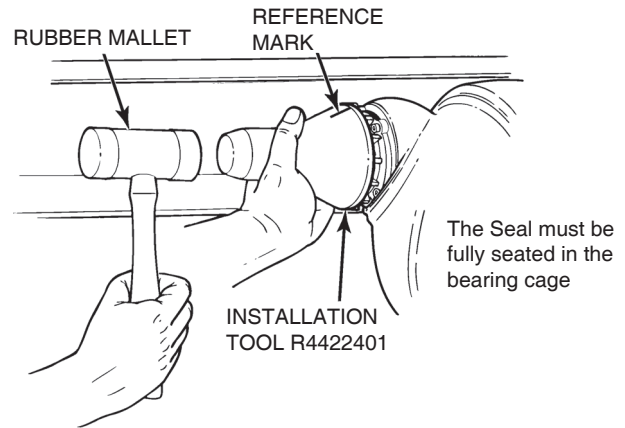

Figure 5.96
7. Use a rubber mallet to mount the seal in the bearing cage. The seal must fully seat into or against the bearing cage. Figure 5.96.